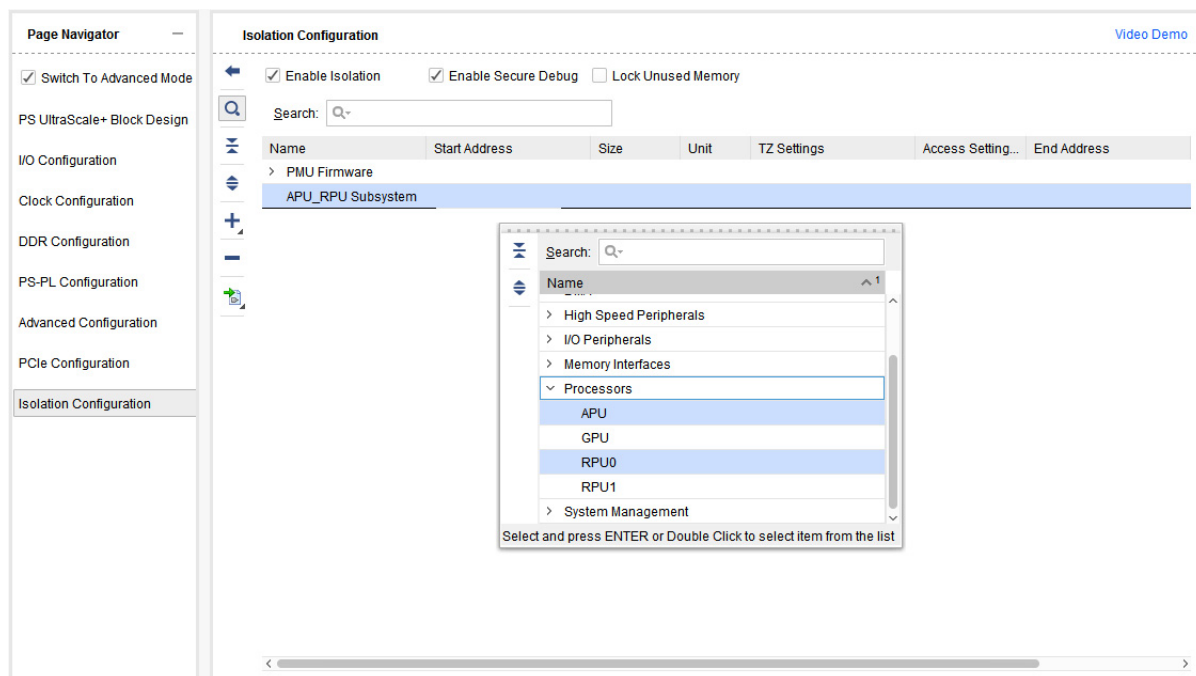

Figure 4-19: Adding Masters
3. Right-click **APU_RPU Subsystem** and then click **Add Master**. Select **APU,RPU0** from processors category as shown in Figure 4-19.